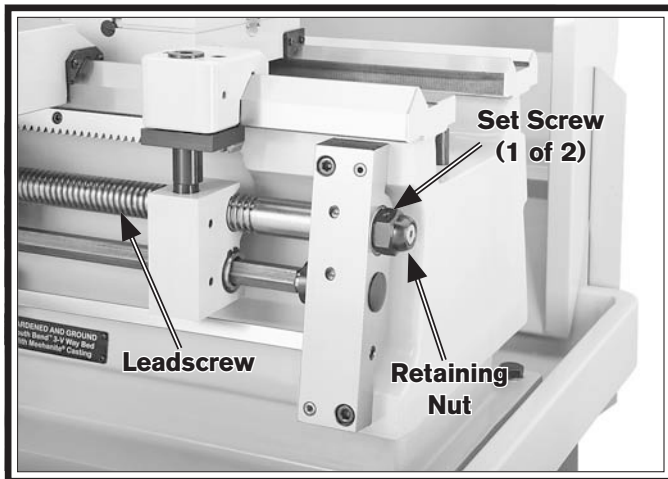

Figure 116. Leadscrew end play adjustment.
2. Loosen both retaining nut set screws (see Figure 116).